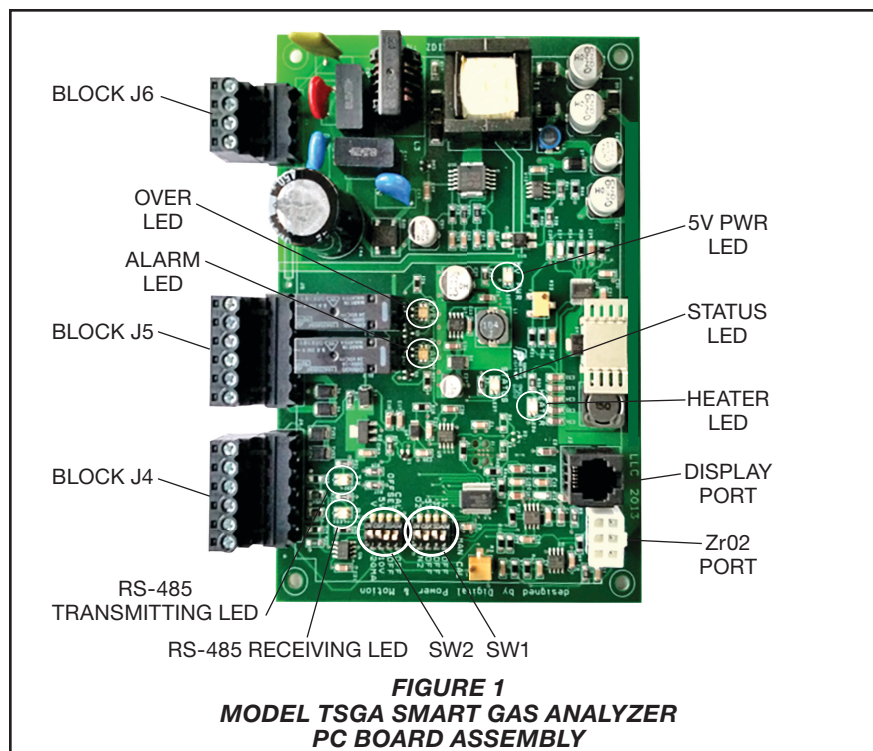

FIGURE 1
Step 4. With the incoming power off, connect the incoming 120 VAC/60 Hz or 230 VAC/50 Hz power supply to BLOCK J6 on the PC Board as shown in Figure 1.
Step 1. Once the unit is verified to be wired correctly, power-on the unit. The Status LED (see Figure 1 and Table A) will repeatedly flash green two times quickly for two minutes. The sensor heater is warming up during this period.